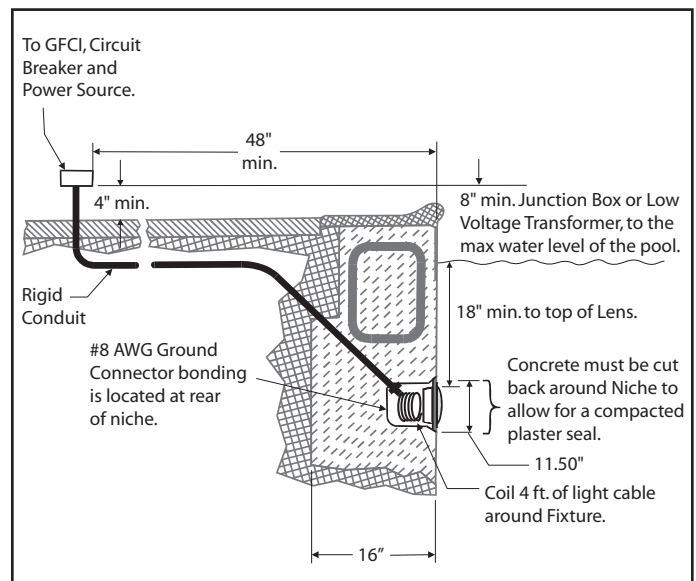

Figure 1. Jandy Pro Series LED Light Installation
NOTE The electrician must complete preparatory steps before light fixture is installed. See Figure 1.
2. The junction box (or, for 12 volt models, the low voltage transformer) must be located at least eight (8) inches above water level, at least four (4) inches above ground level, and at least four (4) feet from the edge of the pool. See Figure 1.
(5) feet of the pool must be properly electrically bonded to a reliable point of grounding.
4. The wet niche must be properly installed so that the top edge of the underwater light’s lens is at least 18 inches below the surface of the water in the pool. See Figure 1.
5. The wet niche must be properly electrically bonded and grounded via the No. 8 AWG ground connector located at the rear of the niche. See Figure 1.
1. Feed cord through conduit to junction box, leaving at least four (4) feet of cord at the light fixture to coil into the base of the light niche, see Figure 1. The four (4) feet of cord allows the light to be serviced after the pool is filled with water.
2. Cut the cord at the junction box, leaving at least six (6) inches of cord to make connections.
3. Strip six (6) inches of the outer cord jacket to expose the three insulated wires. *Be careful not to damage the insulation on the three (3) inner wires.*
4. Install strain relief over cord jacket and connect all three (3) wires to the corresponding circuit wires in the junction box. Install the junction box cover.
2. The junction box (or, for 12 volt models, the low voltage transformer) must be located at least eight (8) inches above water level, at least four (4) inches above ground level or pool deck level, and at least 48 inches from the edge of the pool or spa. See Figure 1.
3. The light fixture and all metal items within five (5) feet of the pool must be properly electrically bonded to a reliable point of grounding.
- The wet niche must be properly electrically bonded and grounded via the No. 8 AWG ground connector located at the rear of the niche. See Figure 1.
- Leave at least four (4) feet of cord to coil around the light fixture or coiled into the base of the light niche, see Figure 1. This allows the light to be serviced after the pool is filled with water.
- Cut the cord at the Junction Box, leaving at least six (6) inches of cord to make connections.
- Strip six (6) inches of the outer cord jacket from the cord to expose the three insulated wires. *Be careful not to damage the insulation on the three (3) inner wires.*